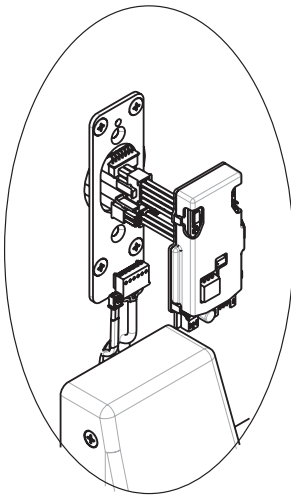

Fig. 9a Detail
1. Once wires are arranged (Fig. 9a), position piece at a rotated angle against the door, under earth ground wire.